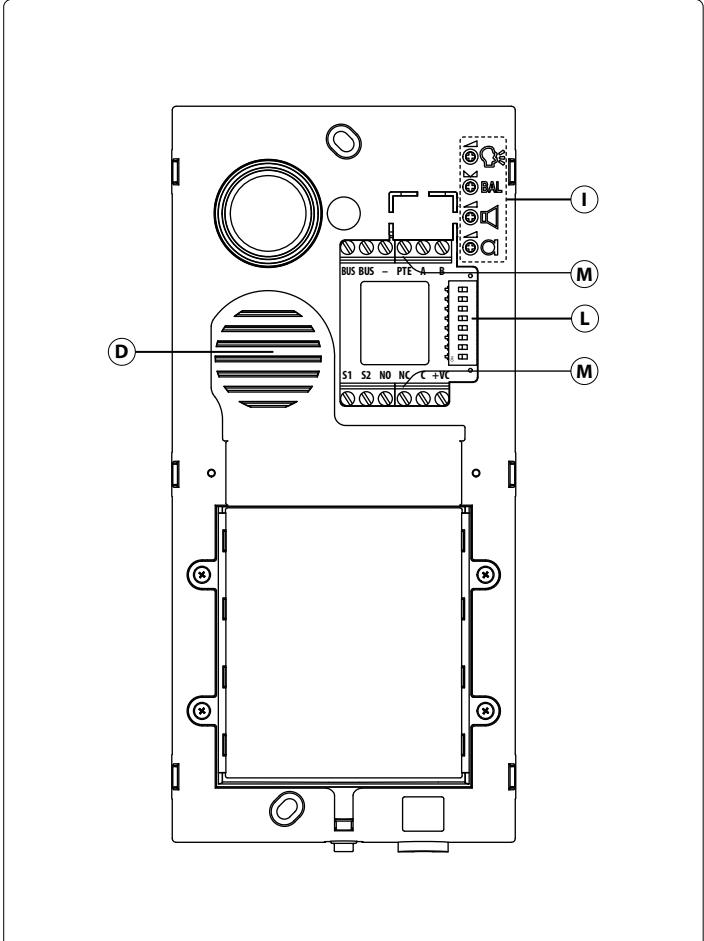

Fig. 2 Front view without frame
The adjustments (Fig. 2 ①) are available by removing the front frame, see "Wall mounting instructions" on page 14.